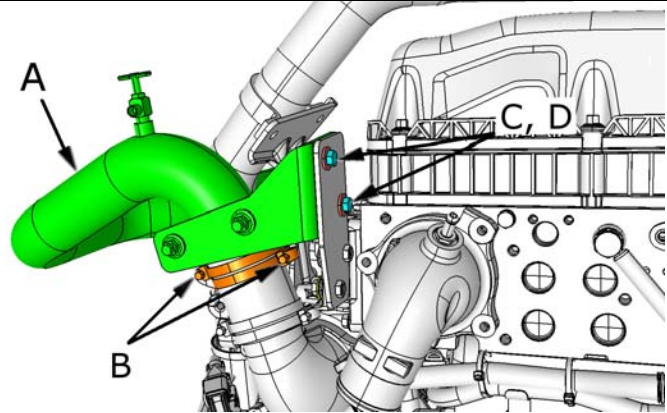

FIGURE 21
26. Reinstall the coolant pipe loosely (A on FIGURE 21).
27. Place the two (2) hose clamps (B on FIGURE 21).
Note: Pay attention to the position of the clamp. Refer to FIGURE 21.